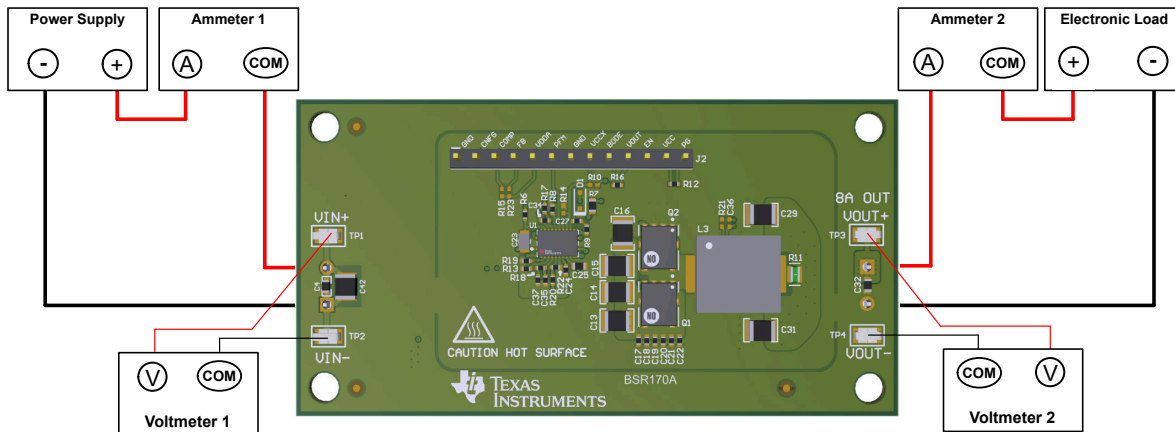

Figure 2-1. EVM Test Setup
Referencing the EVM connections described in Table 2-1, the recommended test setup to evaluate the LM25148B-Q1EVM-2100 is shown in Figure 2-1. Working at an ESD-protected workstation, make sure that any wrist straps, boot straps, or mats are connected and referencing the user to earth ground before handling the EVM.
1. Prior to connecting the DC input source, set the current limit of the input supply to 0.1A maximum. Make sure the input source is initially set to 0V and connected to the VIN+ and VIN– connection points as shown in Figure 2-1.